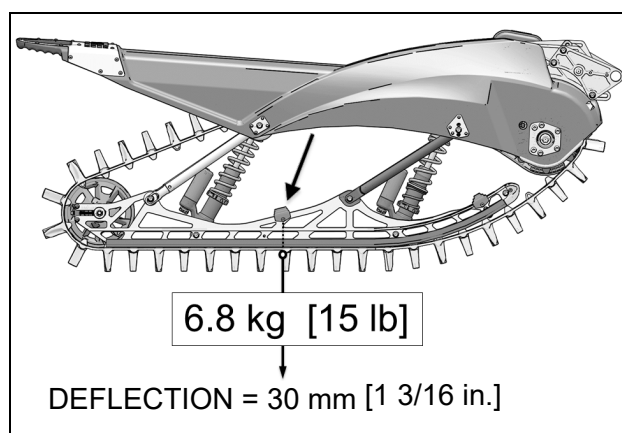

Figure 48
- The table below shows the force applied and the deflection which must/ occur when track tension is correctly set. Refer also to Figure 48.
- Check Track tension using as reference points the rubber bumpers located at mid-point between the two lower shock absorber mount shafts. See Figure 48.